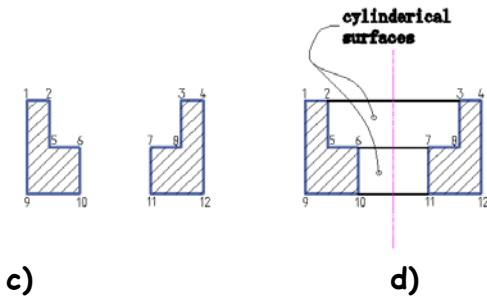

Fig 3.8 Visualizing a sectional view
Two views of an object to be sectioned, having a drilled and counter bored hole, are shown in Fig.3.8. The cutting plane is assumed along the horizontal center line in the top view, and the front half of the object (lower half of the top view) is imagined removed. A pictorial drawing of the remaining back half is shown at (a). The two cut surfaces produced by the cutting plane are 1-2-5-6-10-9 and 3-4-12-11-7-8. However, the corresponding section at (C) is incomplete because certain visible lines are missing.